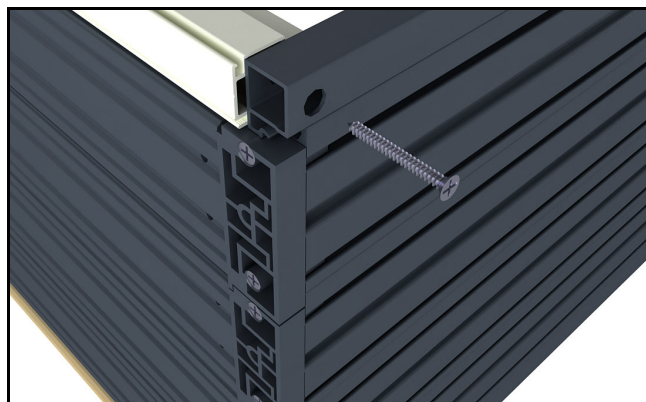

Figure 87
5. Fasten sill liner to frame cladding using #8 x 1 1/2" flat head screw. *Note: Ensure hole is line up with the screw boss in frame cladding.* See figure 87.